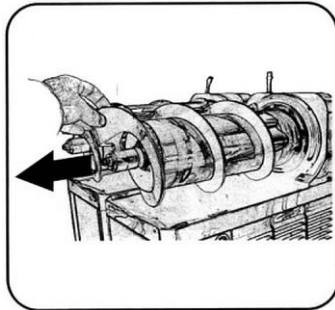

Fig. 21
1. To remove the coil, place your fingers on the coil plate and gently pull it inwards as shown in Fig. 21+22.